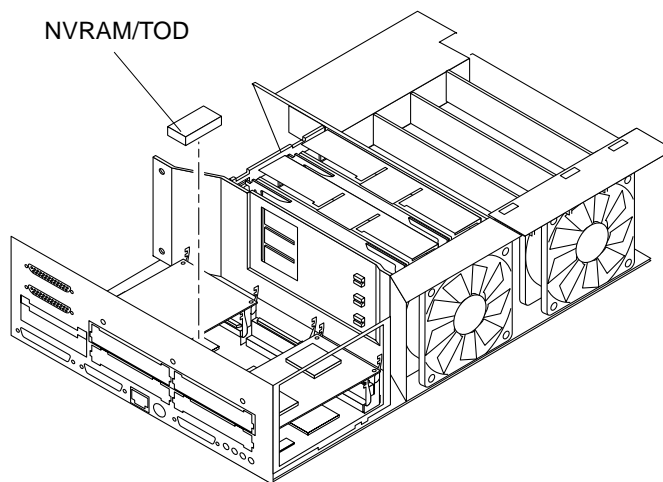

FIGURE 10-3 NVRAM/TOD Location
4. **Locate the NVRAM/TOD and carrier on the motherboard (FIGURE 10-3).**
1. Position the replacement NVRAM/TOD and carrier on the motherboard (FIGURE 10-3).